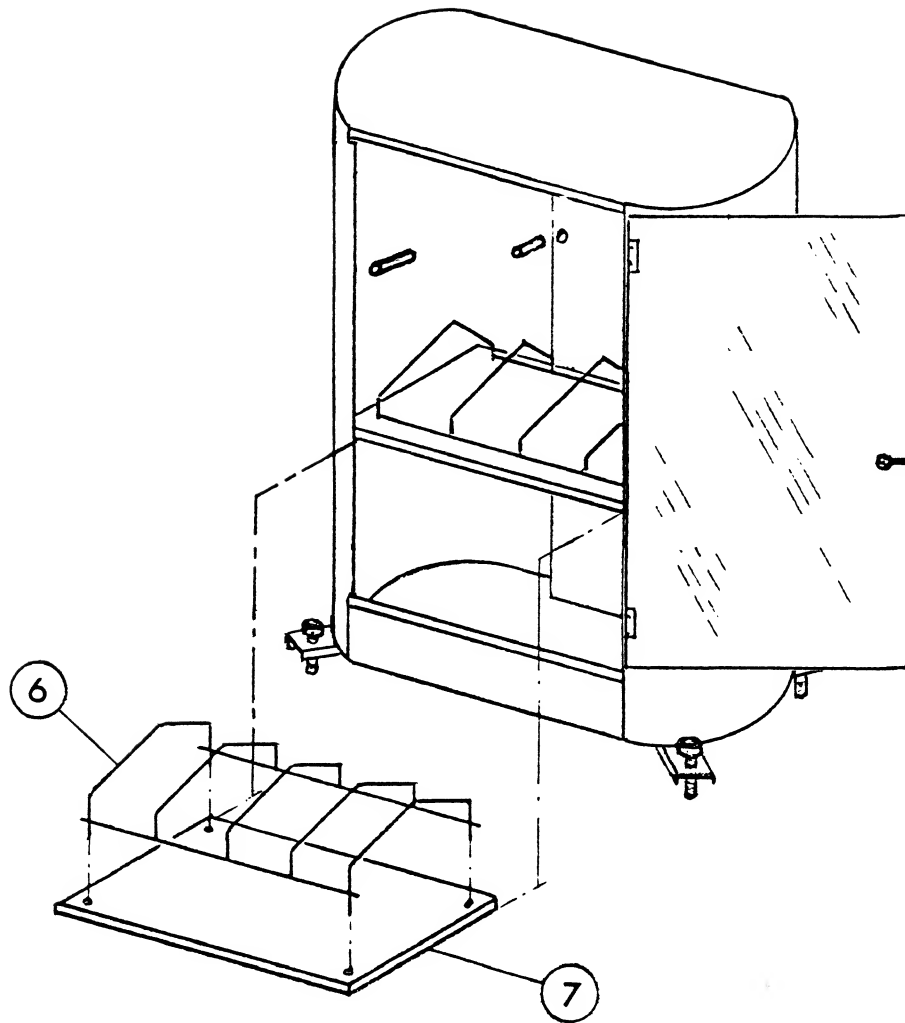

FIGURE 2
3. Install 8 shelf-support pins into pre-drilled holes inside base. 4 pins support each shelf. Four shelf-support pins are used on either side of the door opening, and four are used at the back of the display. (Figure 2)
4. Place shelves (Part #7) in the display. The rounded corners fit toward the back of the display. Install a wire divider (Part #6) on each of 3 shelves inside the base. Shelves are pre-drilled to hold the wire dividers in place. (Figure 2)